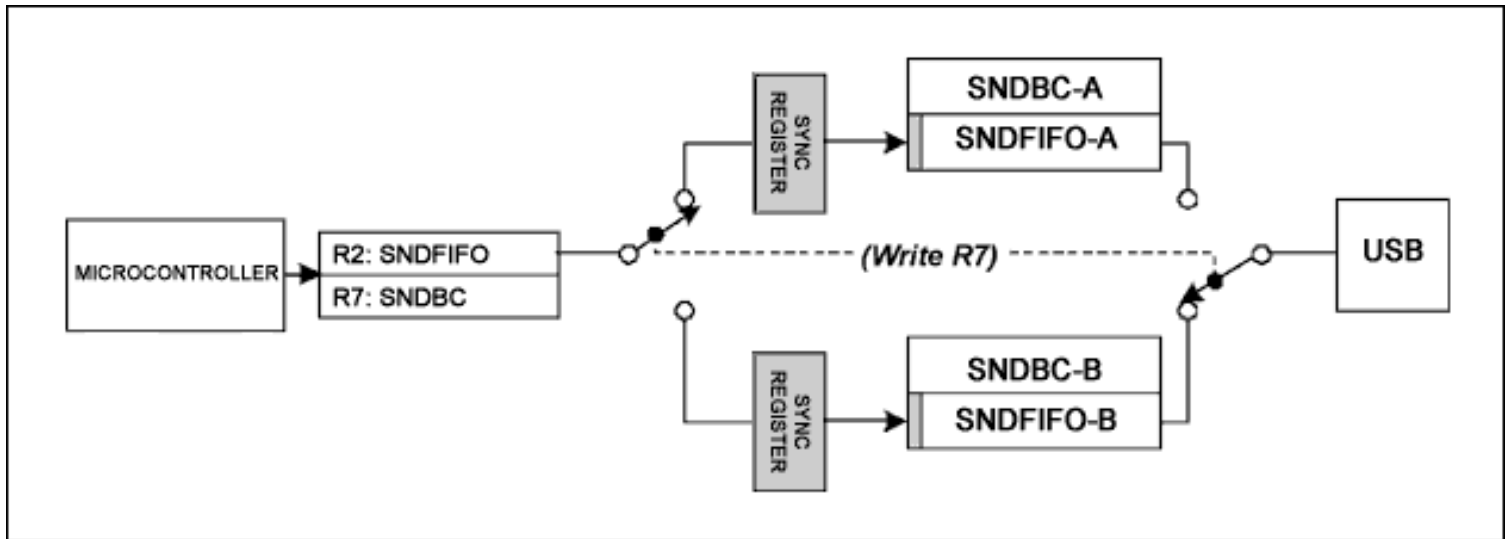

Figure 1. The SNDFIFO and SNDBC registers load a "ping-pong" pair of FIFOs and byte count registers.
As illustrated in **Figure 1**, the first FIFO byte does not come from the physical FIFO. Instead, the first FIFO byte comes from a synchronization register used to reconcile two internal clock domains, one for the microcontroller and the other for the USB logic.
2. Rewrite only the first FIFO byte to the SNDFIFO register. This byte goes into the SYNC REGISTER in Figure 1.